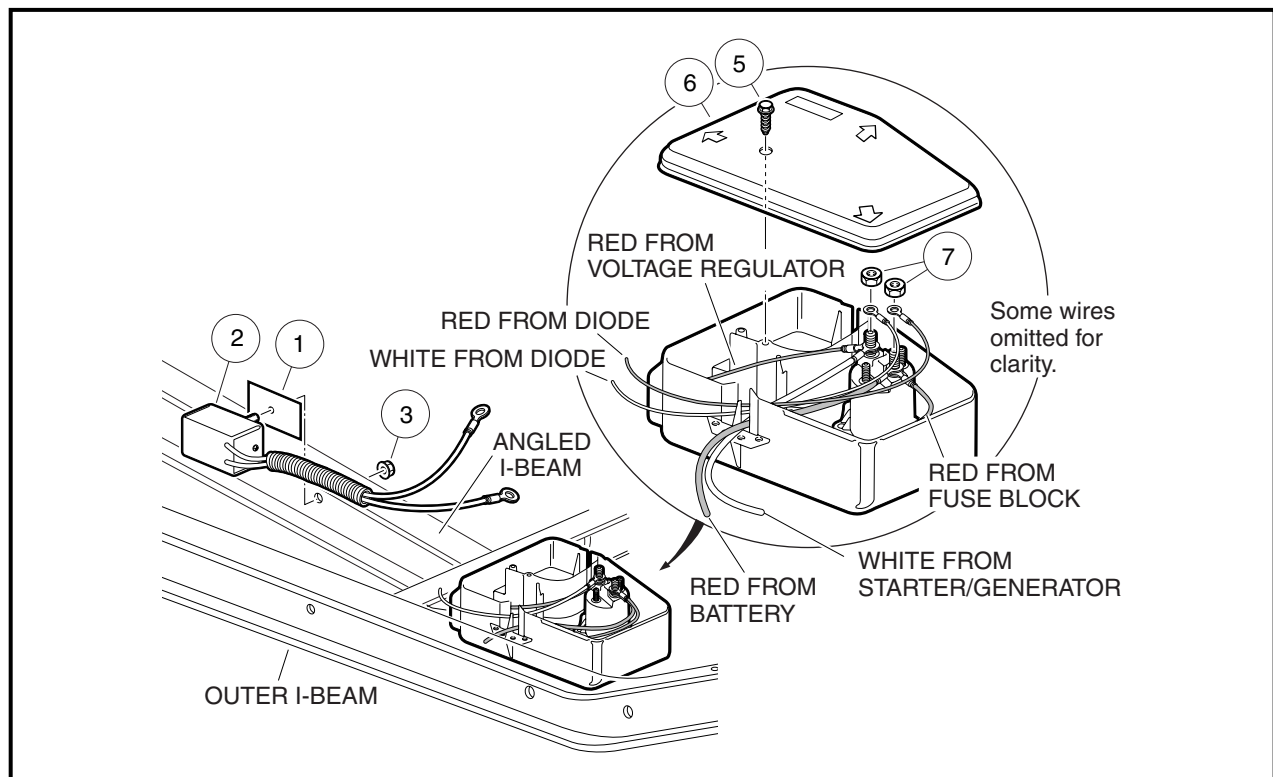

Figure 11a-28 Electrical Control Box and Diode Orientation
- 3.2. Remove the cover retaining screw (5) and electrical component box cover (6) (**Figure 11a-28, Page 11a-24**).
4. With the multimeter set to the diode test function ( $\rightarrow|$ ), connect the black (–) probe of the multimeter to the white lead of the diode and the red (+) probe of the multimeter to the red lead of the diode (**Figure 11a-29, Page 11a-25**). The reading should indicate an overload (no continuity). A diode is designed to conduct current in one direction only. If a diode conducts current (shows continuity) with the meter probes as described, the diode has failed and must be replaced. See **Diode Removal, Section 12a, Page 12a-12**.
5. Reverse the multimeter probes and note the reading. With the black (–) probe of the multimeter to the red lead of the diode and the red (+) probe of the multimeter to the white lead, the meter should read approximately 450 mV, however, a range of 400-500 mV is acceptable (**Figure 11a-30, Page 11a-25**).